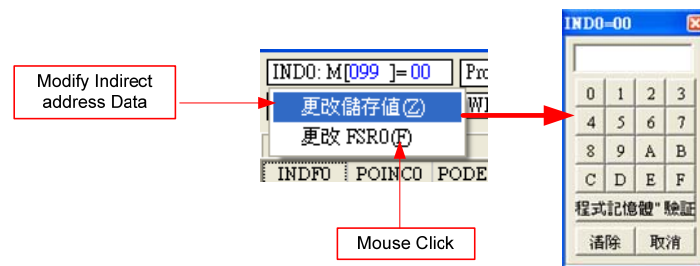

Figure 27
2. Point the cursor to the selected revised lines, double click the mouse's left key, a window will pop up as Figure 27 shown. Users can key in on keyboard or press the button by mouse
As shown in Figure 27, using Key IN of the keyboard or using cursor to click data the Data can be modified.